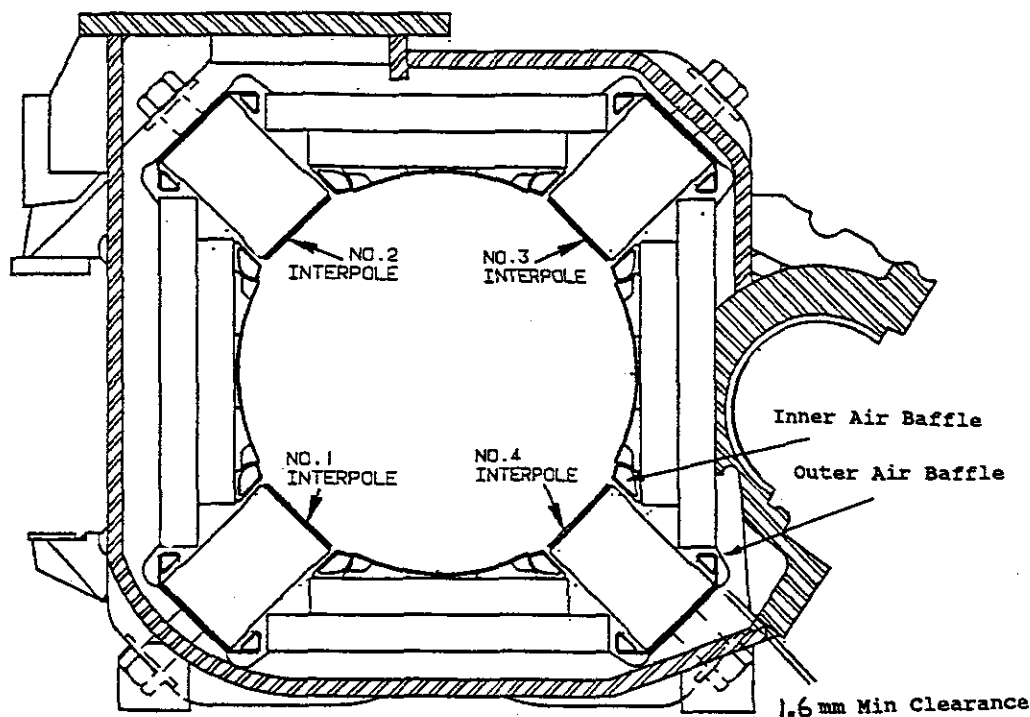

Fig. 21 - Interpole Coil Positions from Commutator End
1. Index stator frame fixture so the location for the No. 2 interpole coil is at the top position. Refer to Fig. 21.
2. When interpoles are properly spaced, check the space between the interpole coils and baffles, Fig. 21. Minimum allowable clearance is 1.6 mm.